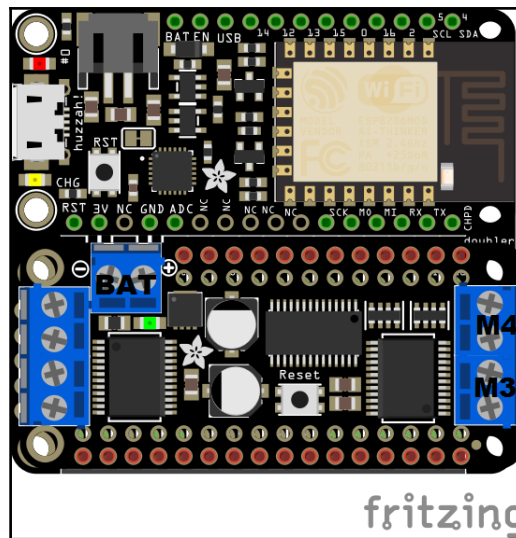

Figure 6.21: Placing the DC Motor FeatherWing on the FeatherWing Doubler
5. Place the Adafruit Stepper + DC Motor FeatherWing on the FeatherWing Doubler next to the Feather Huzzah ESP8266 (*Figure 6.21*):